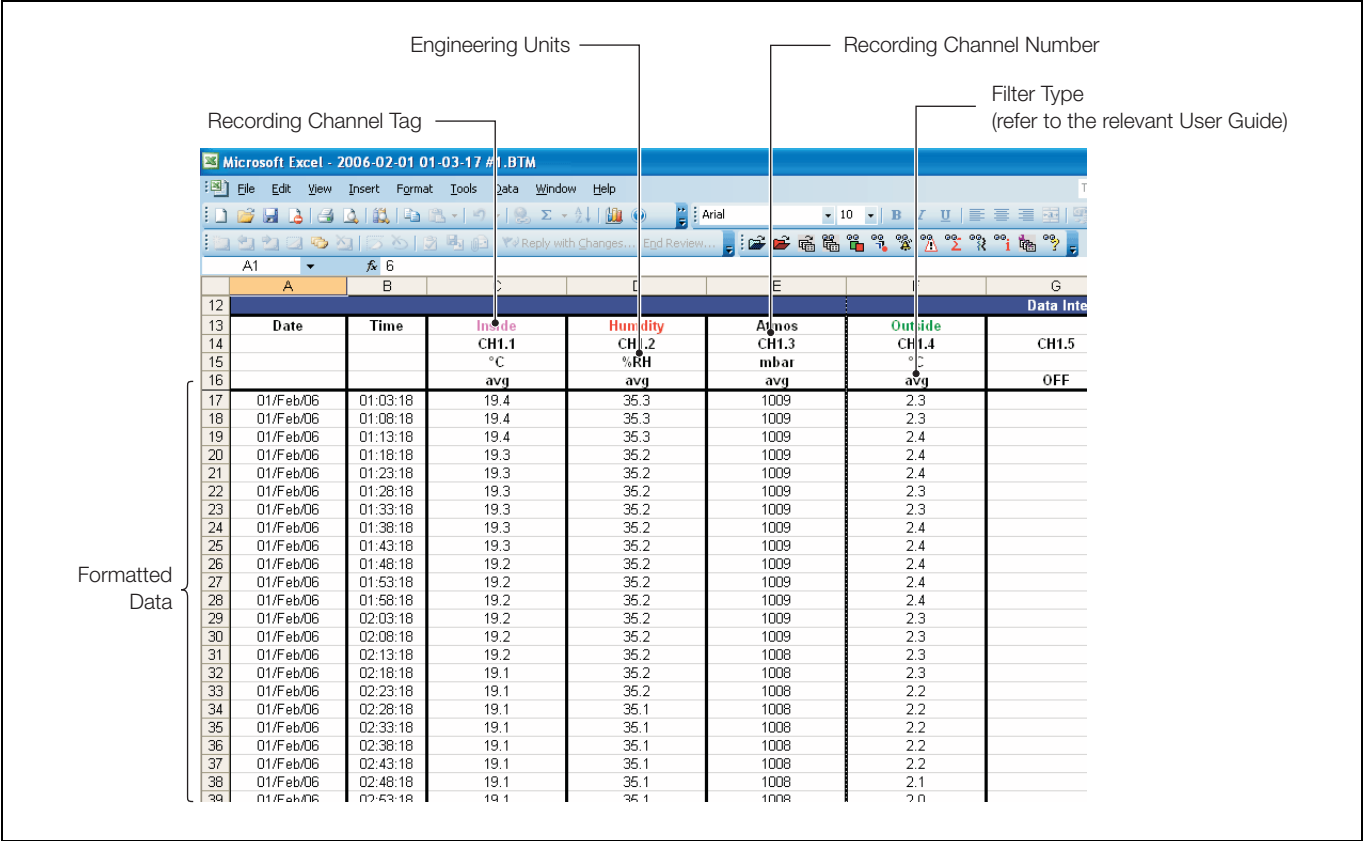

Fig. 3.1 Channel Data View
3.5 View Channel Data – Fig. 3.1